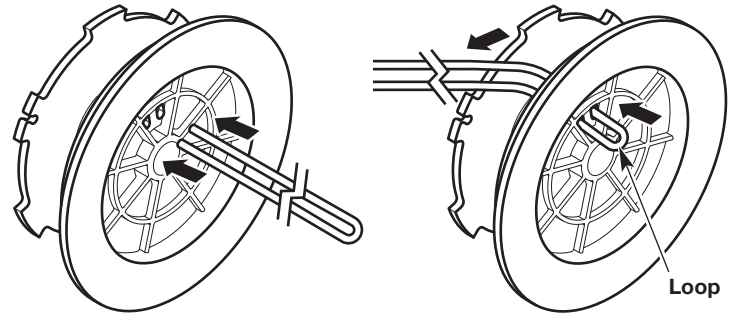

Fig. 18
2. Insert the two line ends through the two holes in the inner reel (Fig. 18). Pull the line through the inner reel so that the loop is as small as possible (Fig. 18). Make sure the line ends are of equal length.